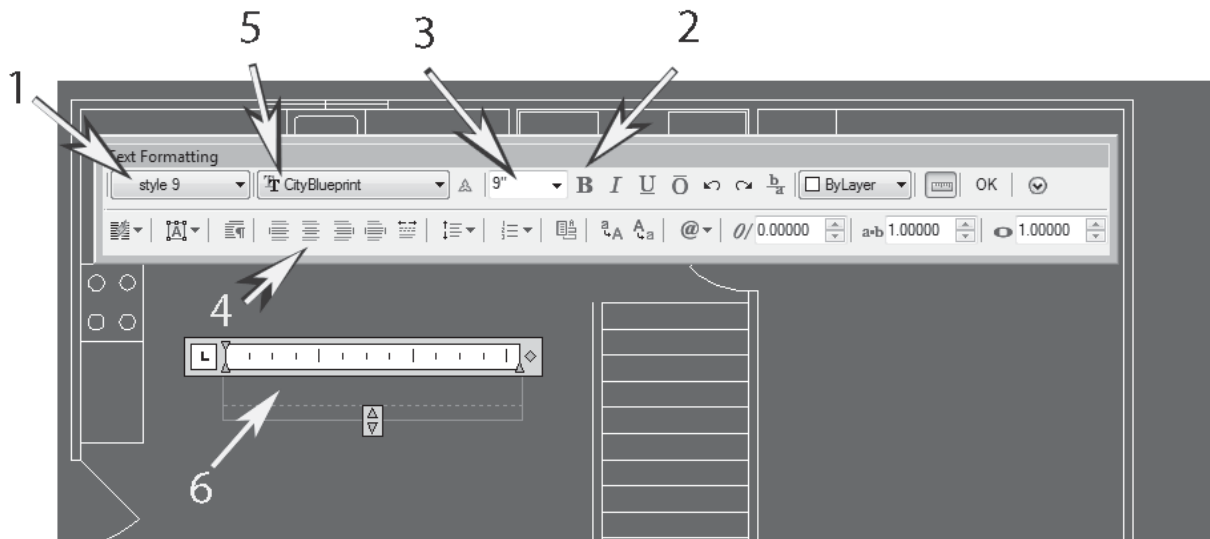

Fig 1-50
The **Text formatting bar** shown in Fig 1-50 will appear.
Set the **Caps Lock** on the computer keyboard (see Appendix I—Keyboard). **Select** your **style 9** (at 1 in Fig 1-50). **Click** on the **Bold** (2) button at the top of the bar. **Check** the **size** box (3) to make sure it reads **9**. If there is another number in this box then click on the number in the box, when it turns blue, **overtyp**e it with a **9**. Click on the **Center Text** (4). Check that the Font reads **City Blueprint** (5). If it is something different then you can change it in this window, but it is better to close this box, go back to Text Styles dialog box, and set it there.